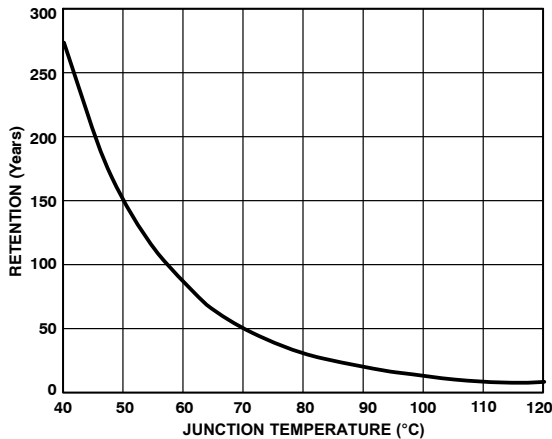

Figure 15. Typical EEPROM Memory Retention
10. Retention lifetime equivalent at junction temperature (T_J) = 55°C as per JEDEC Std. 22 method A117. Retention lifetime based on activation energy of 0.6 V derates with junction temperature as shown in Figure 15.
Retention quantifies the ability of the memory to retain its programmed data over time. The EEPROM in the ADM1026 has been qualified in accordance with the formal JEDEC Retention Lifetime Specification (A117) at a specific junction temperature ($T_J = 55^\circ\text{C}$) to guarantee a minimum of 10 years retention time. As part of this qualification procedure, the EEPROM memory is cycled to its specified endurance limit described above before data retention is characterized. This means that the EEPROM memory is guaranteed to retain its data for its full specified retention lifetime every time the EEPROM is reprogrammed. Note that retention lifetime based on an activation energy of 0.6 V derates with T_J , as shown in Figure 15.